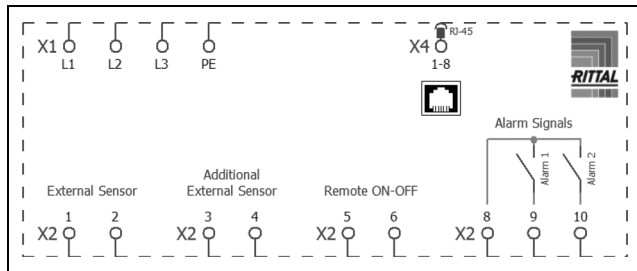

Fig. 12: Circuit diagram
- Remove the mains connector from the dispatch bag and connect to the mains as shown on the connection diagram (fig. 12).